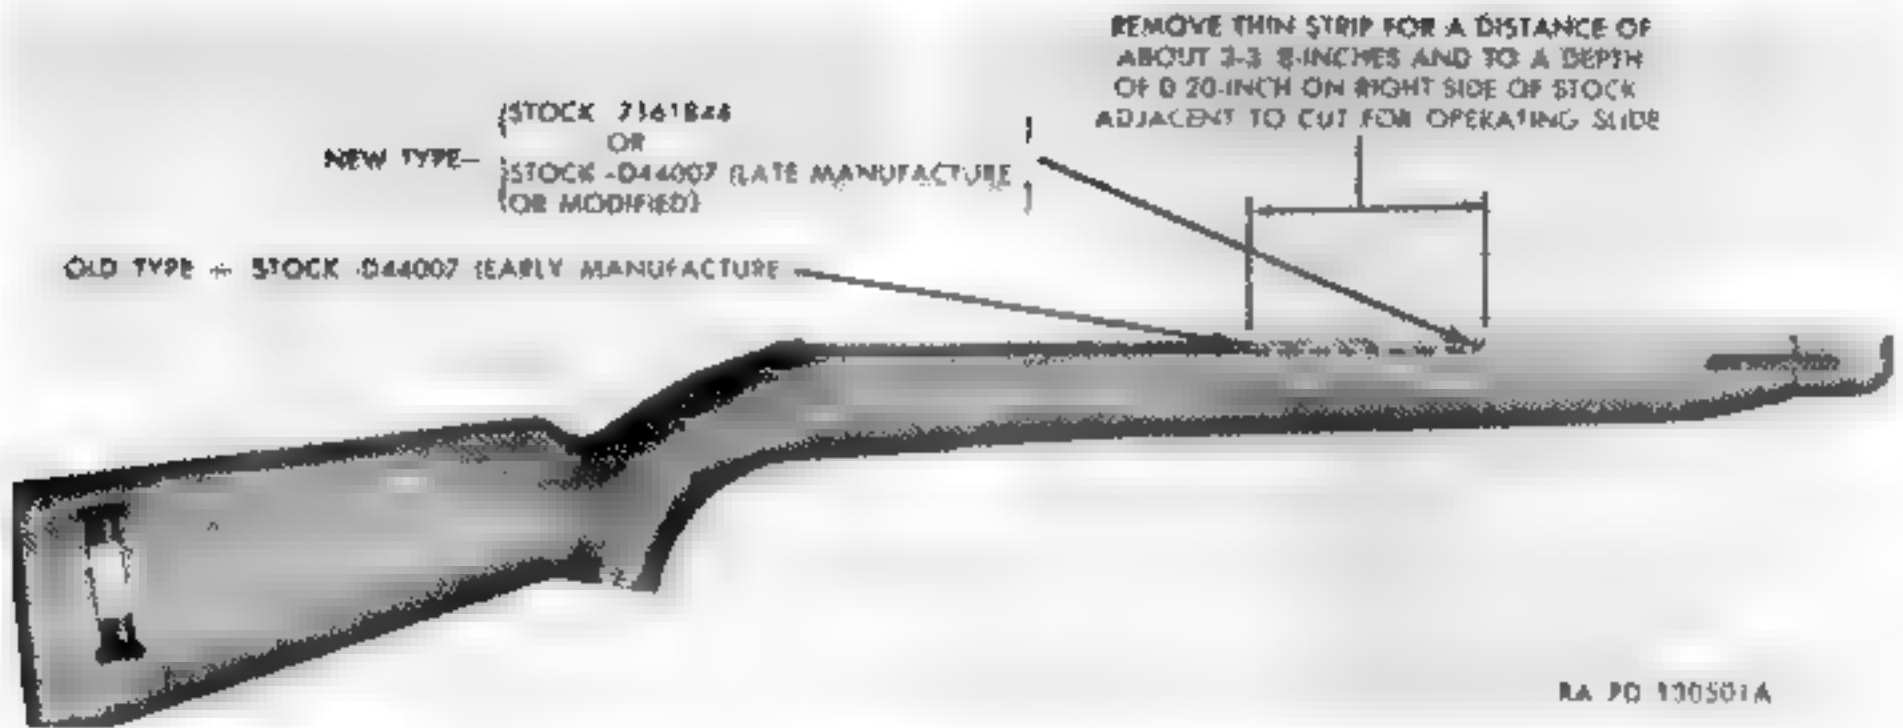

Figure 103. Modification of stock D44007 of early manufacture (carbine M1).
*e. Stock Modification.* Carbine M1 stocks of stock assemblies C57157 of early manufacture were made with a thin section on the right side where the operating slide bar passes to the right side of the receiver. This thin strip should be removed in order to prevent cracks from starting in this area. The stock should be cut down as shown in figure 103.